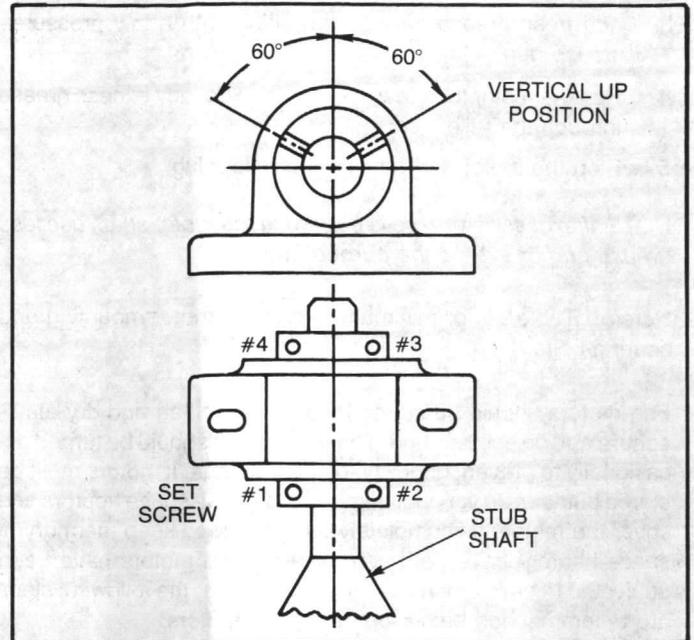

FIGURE 40 - Instruction Sketch for Pillow Block Bearing with Double Lock Setscrew
1. Rotate the shaft until the double lock bearing setscrews are in the vertically up position as shown in Figure 40.
2. Without V-Belt tension, snug (hand tight) all four setscrews of the double lock bearing in the numerical sequence as shown in Figure 40.
3. Torque each setscrew of the double lock bearing in the numerical sequence to 66 inch-pounds. See Figure 40.